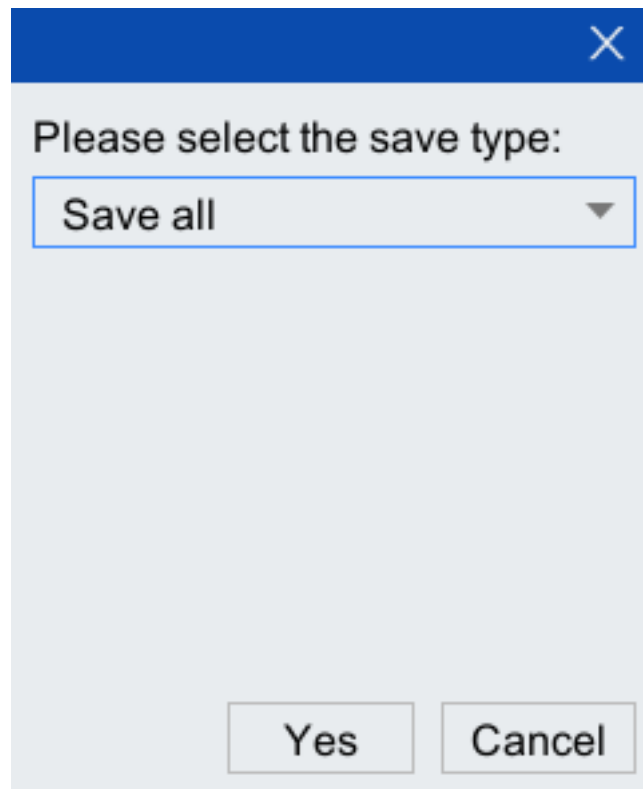

Figure 5-47 Save type dialog box
Step1. After completing the parameter configuration, click <Save> at the bottom of the interface, and a dialog box as shown in Figure 5-47 will pop up. Select 'Save All' in [Please Select Save Type] and click <Yes>.